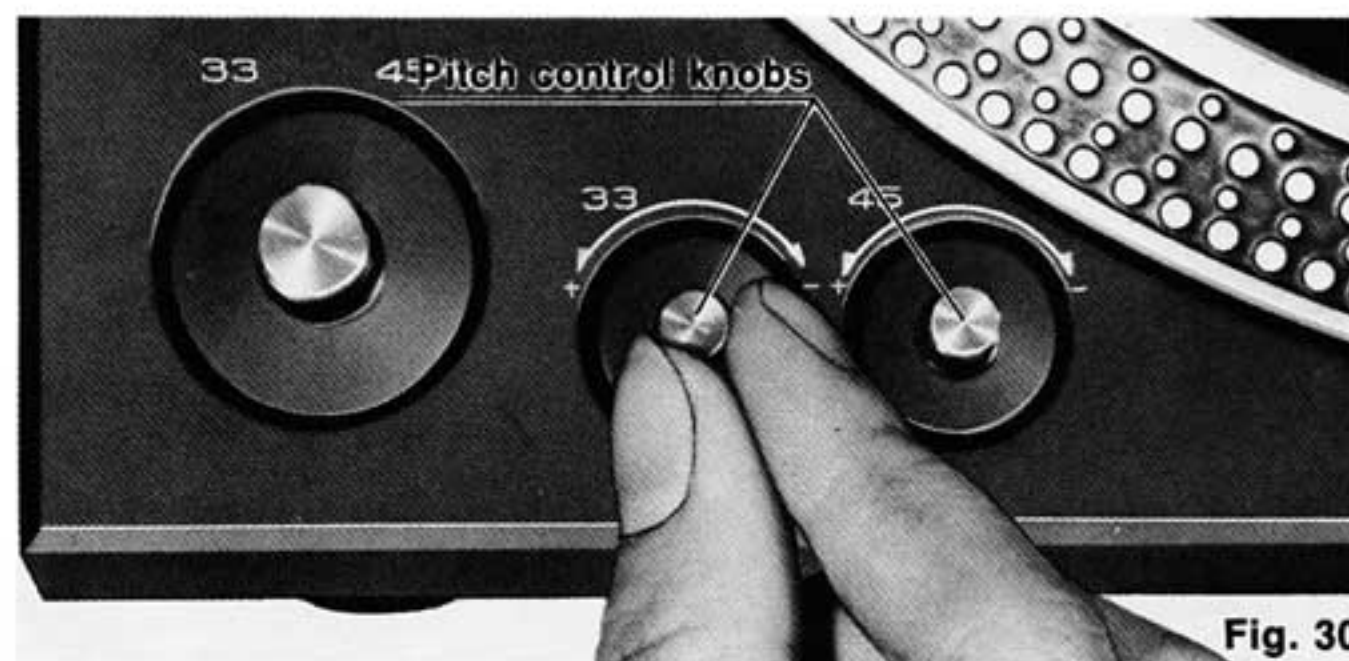

Fig. 30
① PITCH CONTROLS (See Fig. 30)